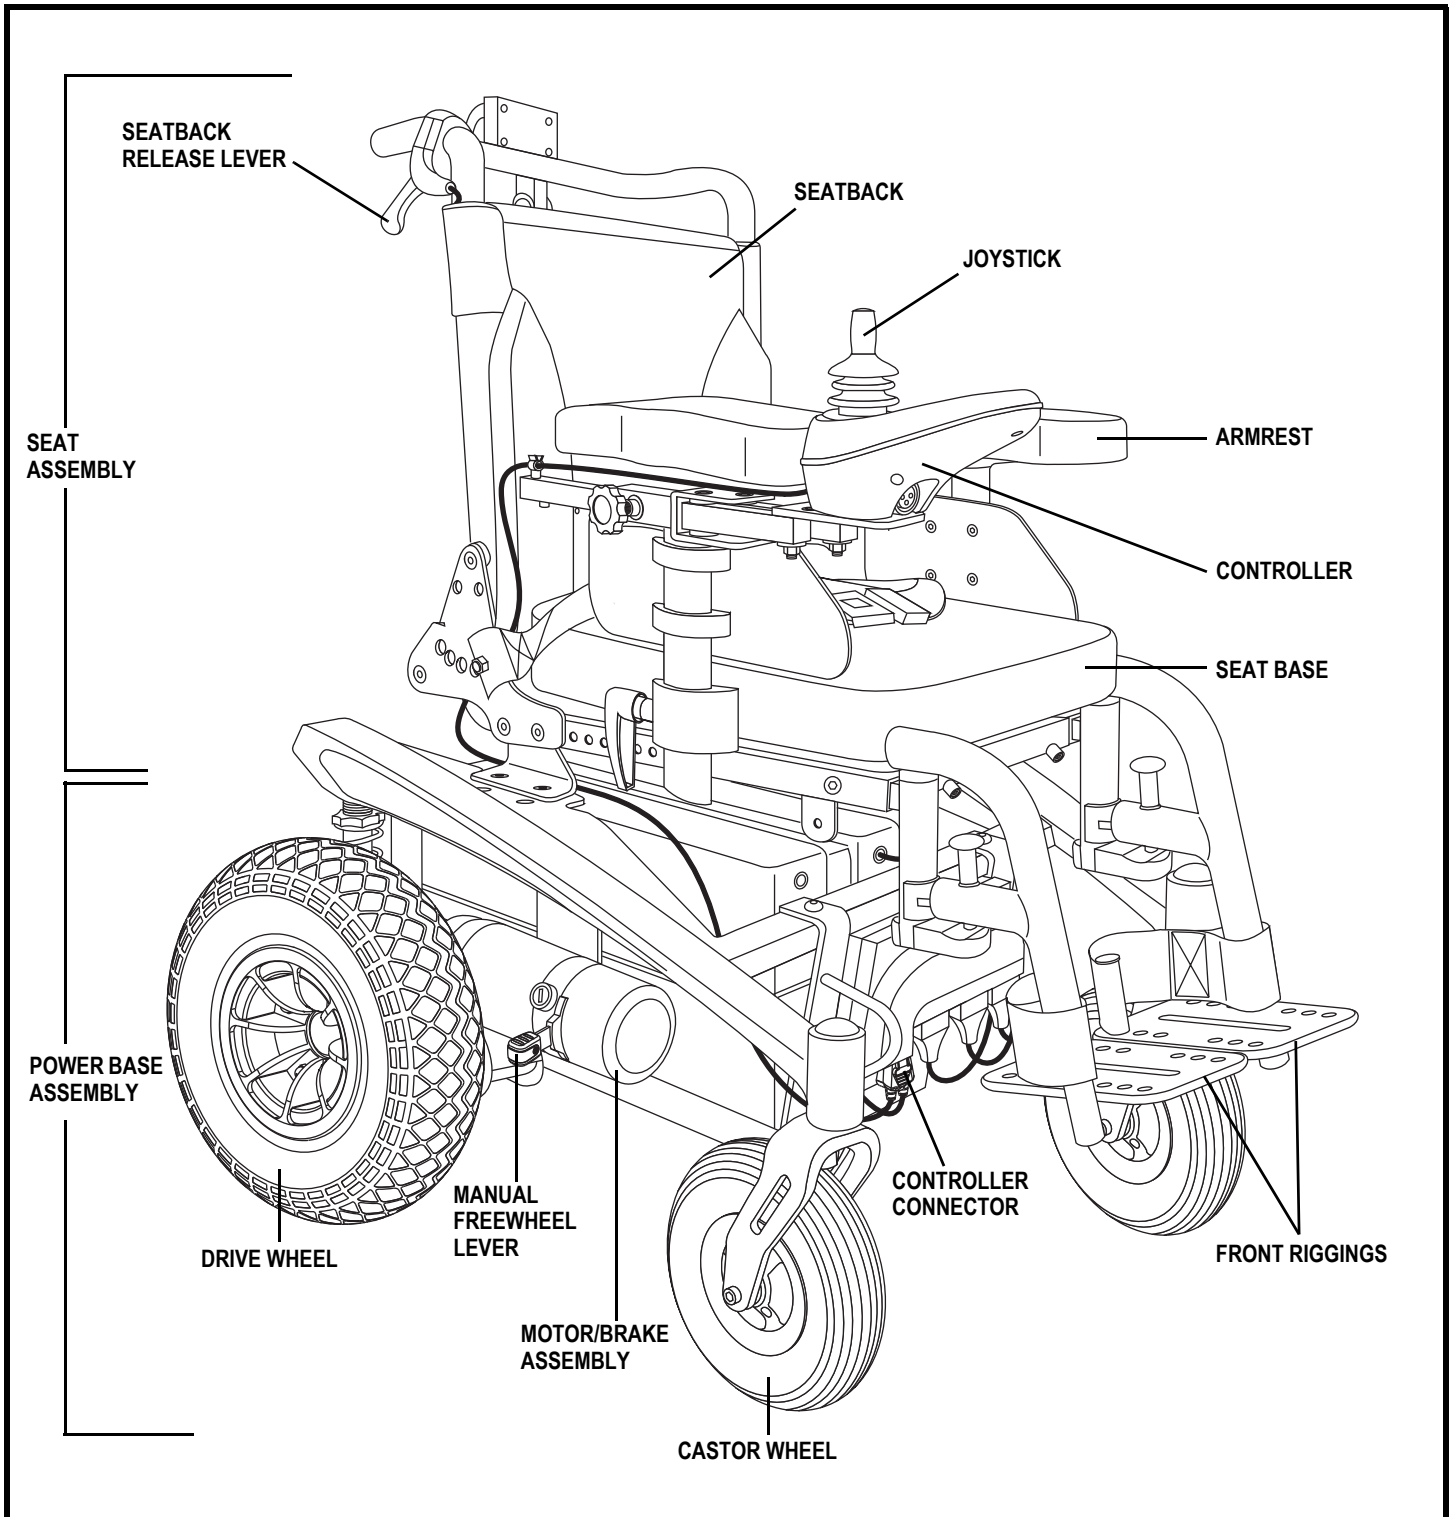

Figure 5. The Sparky
Your power chair has two main assemblies: the seat and the power base. See figures 5 and 6. Typically, the seat assembly includes the armrests, seatback and seat base. The power base assembly includes two motor/brake assemblies, two drive wheels, two castor wheels, two anti-tip wheels, two batteries and wiring harnesses.
**Controller Connector:** This is where the controller connects to the power base. The controller connector is located at the front of the power base. See figure 5.